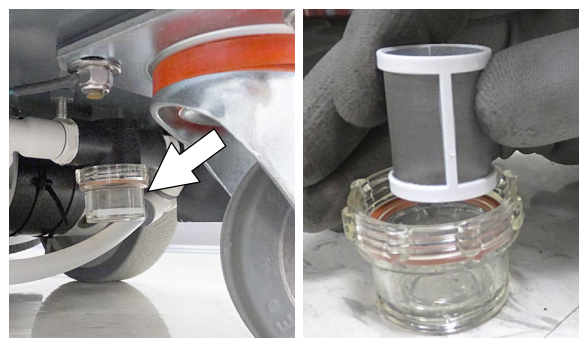

FIG. 86
4. Remove the solution tank filter and clean screen after every 50 hours of use (Figure 86). Solution filter is located under machine at rear. Drain solution tank before removing filter.